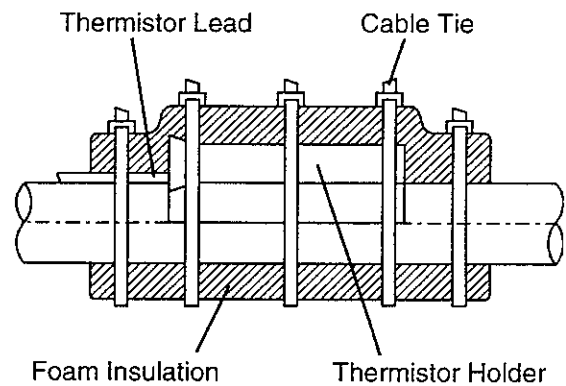

Fig. 3
- 5) Remove the Plastic Cable Ties, Foam Insulation, Thermistor Holder and Thermistor. See Fig. 3.